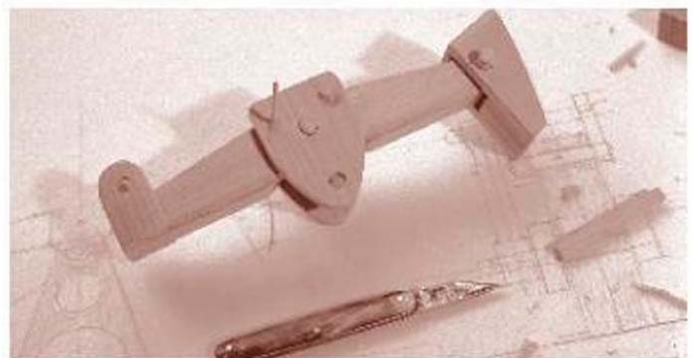

FIGURE 7-14
- 7** When you are happy with the placement of the various plates, set the donkey head on the beam, and fit with a pivot rod. Make sure the head is a loose-nodding fit (Fig 7-14).